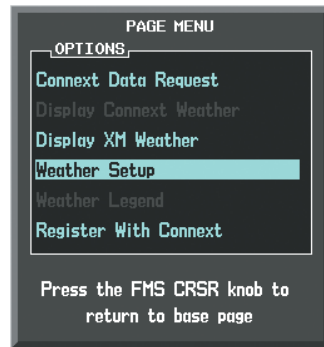

Figure 6-56 Weather Data Link (CNXT) Page Menu
- 3) With 'Weather Setup' highlighted, press the **ENT** Key (Figure 6-56).